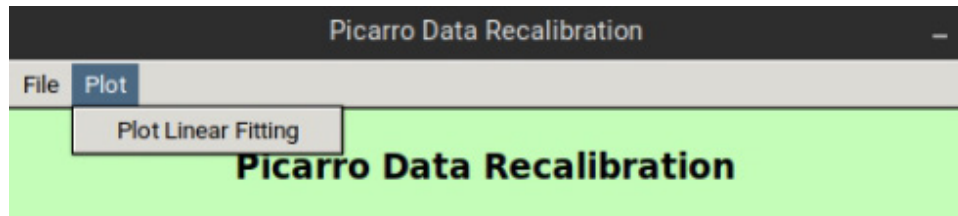

Figure 41: Data Recalibration – Plot Linear Fitting
Once the calibration parameters are calculated, the user can elect to graphically display the calibration and quality control (QC) standards in a graph. To do this, click **Plot** in the upper left corner of the window, and select **Plot Linear Fitting** from the drop-down menu, as shown in Figure 41 below.